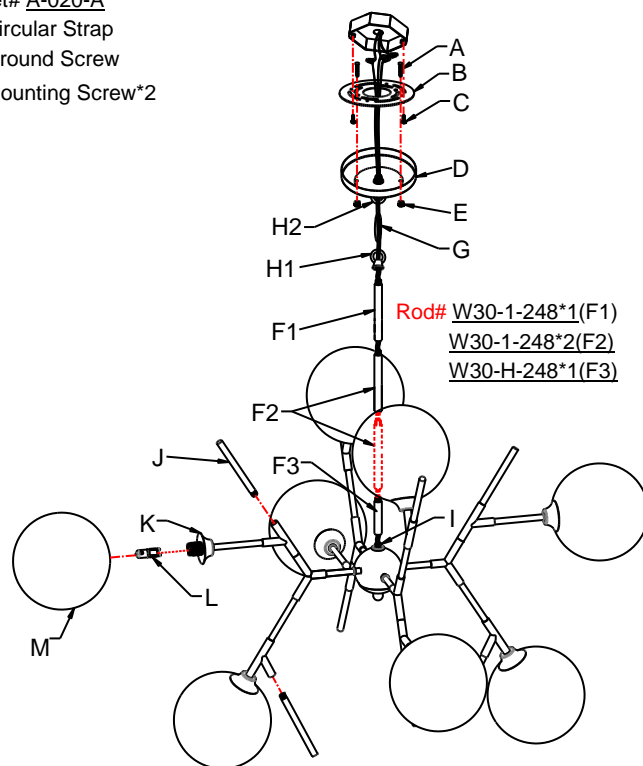

Fig. 3
CONNECTING THE WIRES (Fig. 3)
7. Connect the electrical wires as shown in fig 3, making sure that all wire connectors are secured. If your outlet has a ground wire (green or bare copper), connect the fixture's ground wire to it. Otherwise, connect the fixture's ground wire directly to the circular strap (B) using the green screw provided.